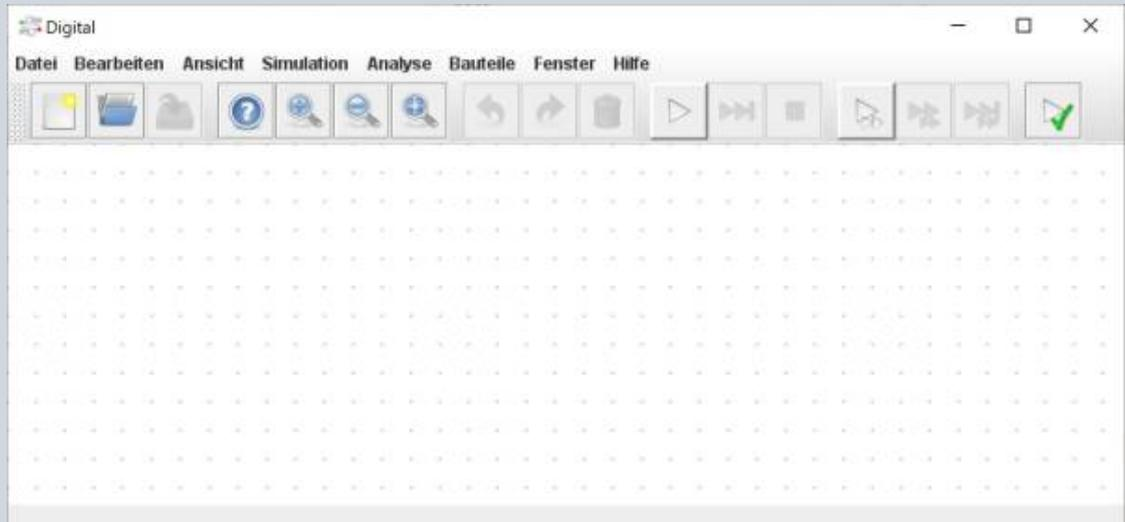

Fig. 1: Elements of the program Digital
- You should now see an “empty circuit” in Digital (see figure 1).